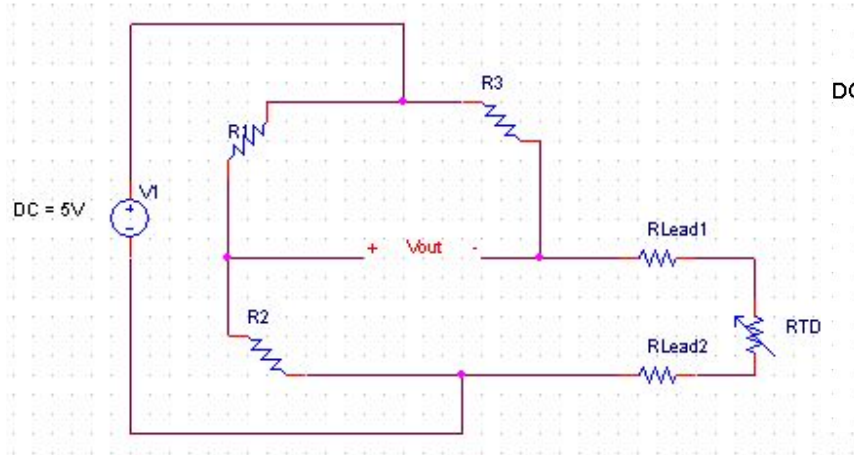

Figure 8: IDE used for producing the test code
- “Figure 8” <http://www.atmel.com/webdoc/atmelstudio/> Accessed: 22 November 2017